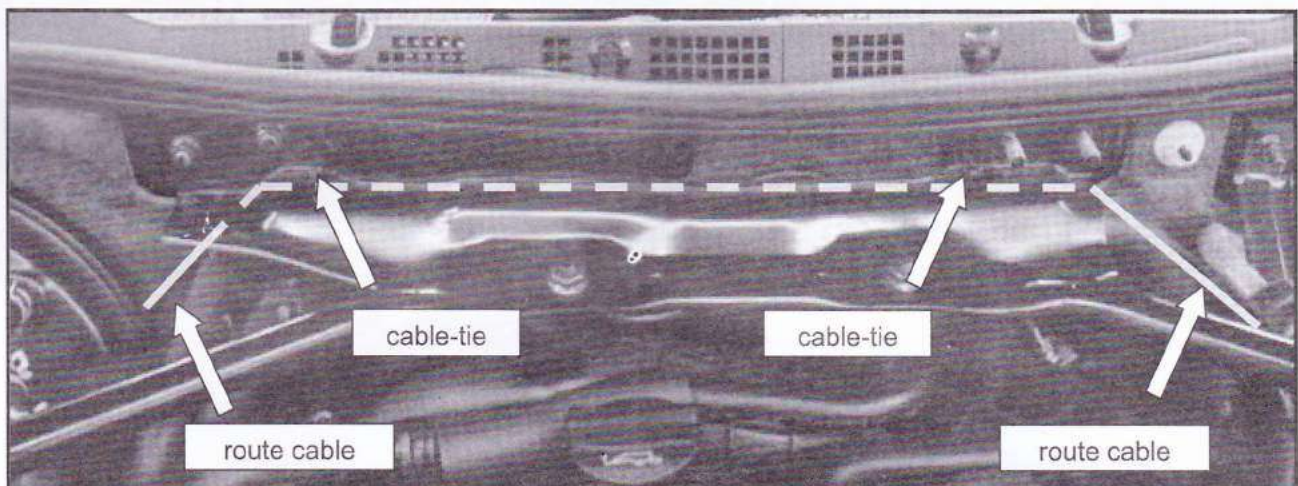

figure 13
1. Remove the cover trim from the top of the engine. Route the cable branch (with green connector) behind the brake booster, under the metal plate, then across to the LHS strut. Use cable ties, where shown in figure 13, to secure branch under the metal plate.